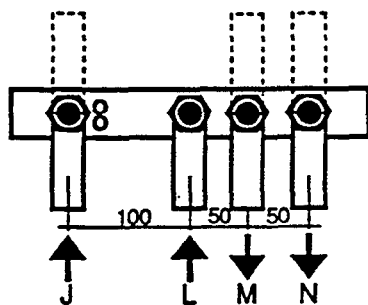

Fig. 20
- Mark vertical centre line for boiler on wall (see fig. 20)
- Using support plate as a template mark 2 fixing slots (A).
- Mark horizontal line through the fixing slots (A) and project to side wall.
- Mark wall for centre of flue opening (H) (see table fig. 20) the horizontal on side wall.
- Drill 2 fixing holes (for (H) top of slot)
N.B. Dimension (H) decreases as dimension (D) increases due to the required fall of flue of 5 mm per metre.